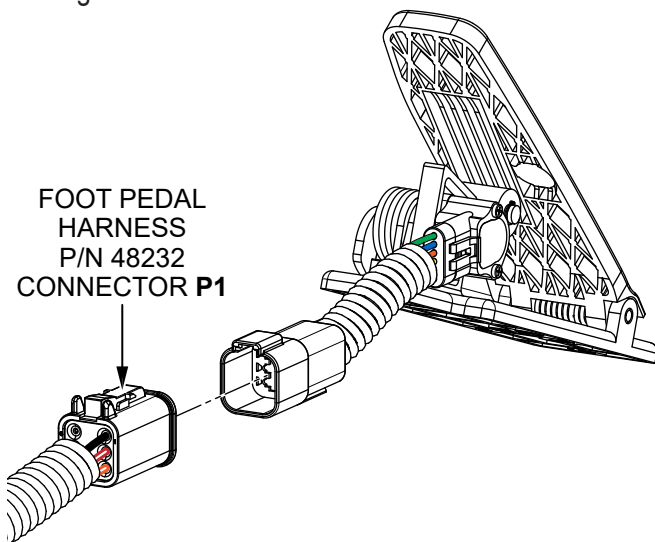

Figure 10. Connect Foot Pedal Harness To Foot Pedal
4. Connect the foot pedal wiring connector to **connector P1** on the **foot pedal harness (P/N 48232)**. See Figure 10.